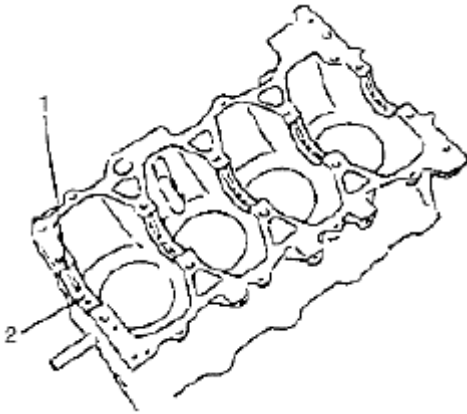

Fig. 187: Identifying Upper Half Of Bearing & Oil Groove
- Upper half of bearing (1) has oil groove (2) as shown in **Fig. 187**.